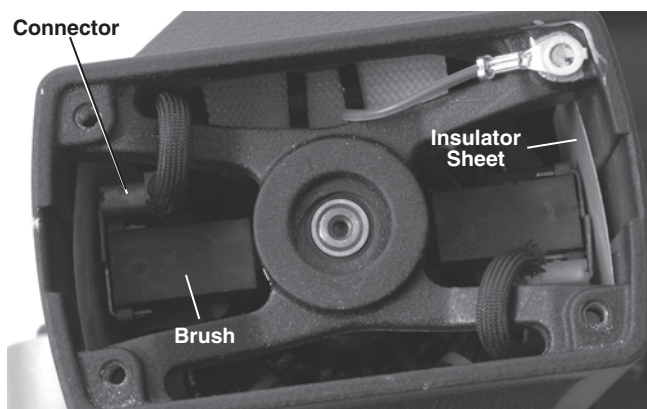

Figure 12 – Brush Placement - Motor Cover Removed
2. Using a pair of pliers, pull the motor brushes straight out. Detach the connector. (See Figure 12)